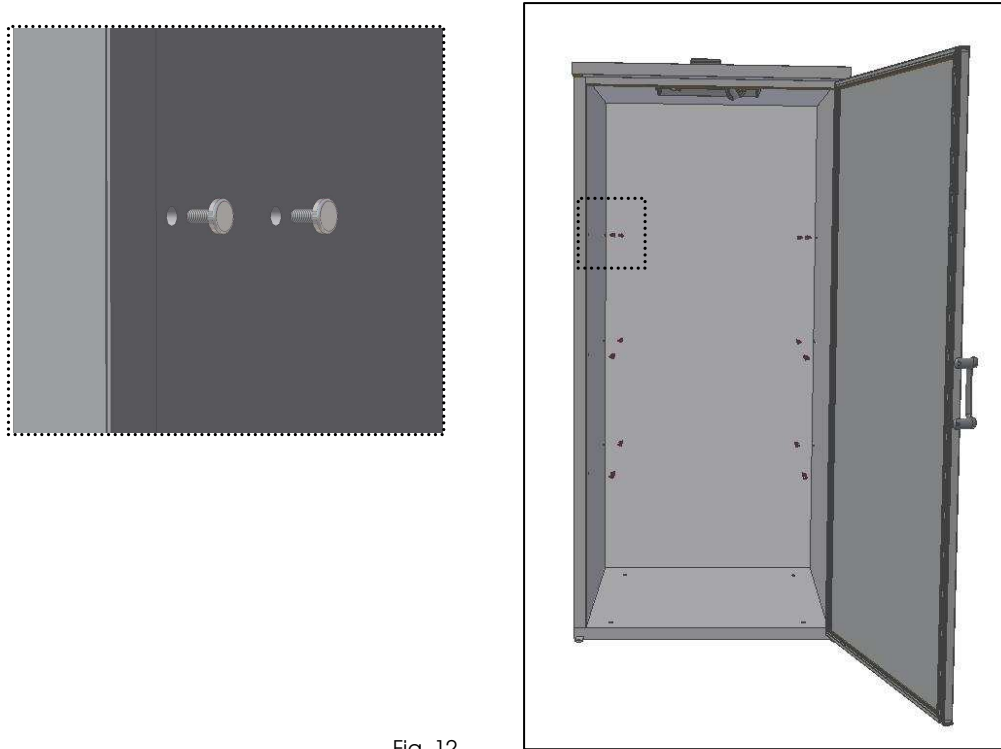

Fig. 12
- Insert **stud-pins** for fixing grids supports (Fig.12);